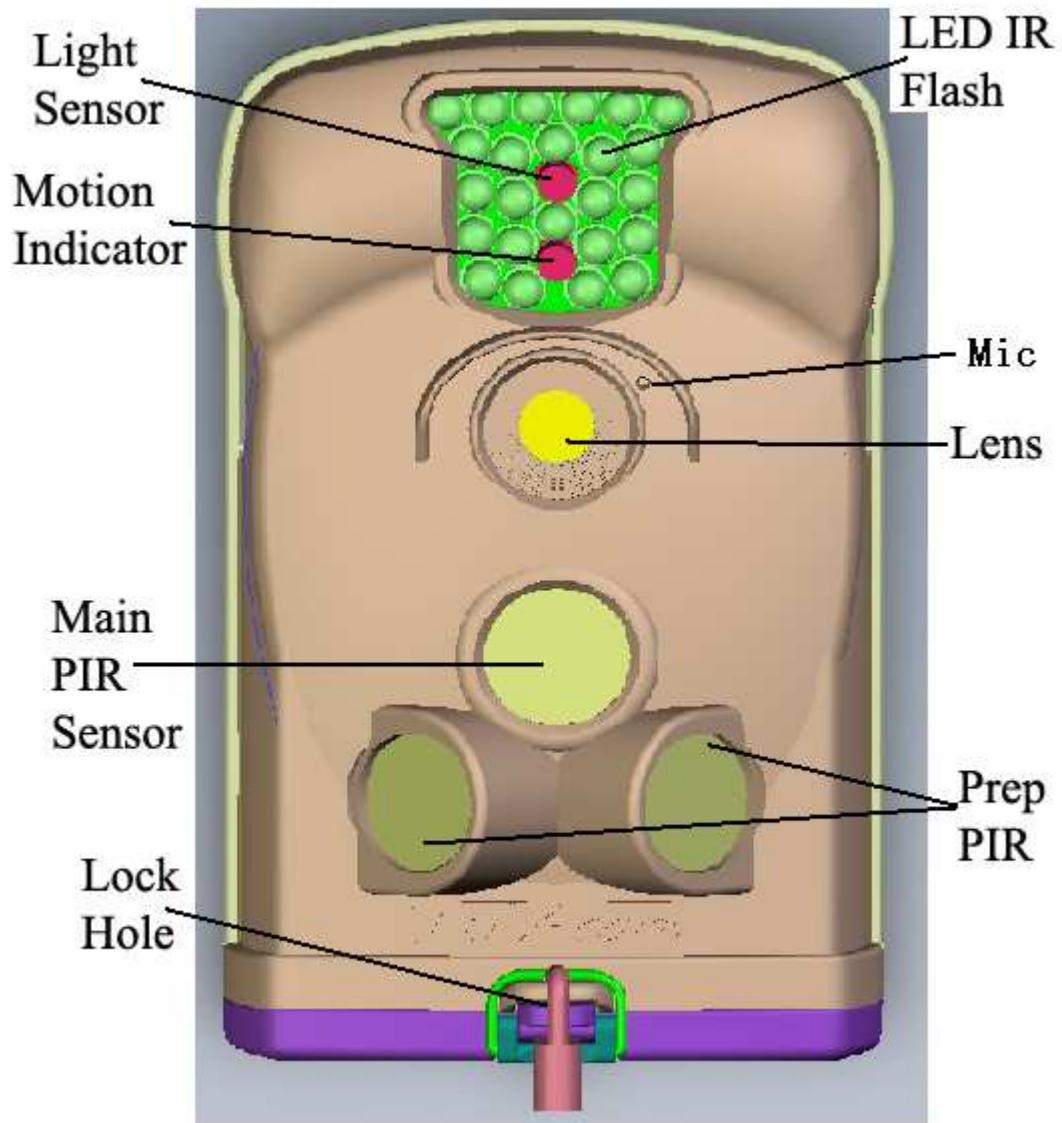

Figure 1.1: Front View of Ltl-6210M
- Figure 1.1 shows the front view of the camera (Part # Ltl-6210M)